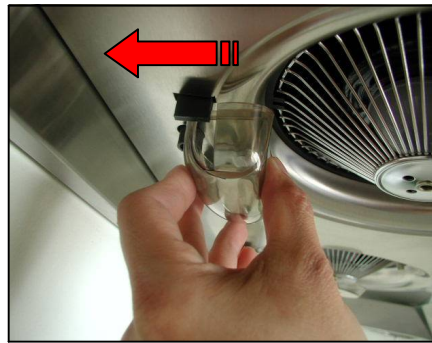

Figure 7
9. Slide oil container (oval) into plastic slot behind each safety screen. Refer to Figure 7.